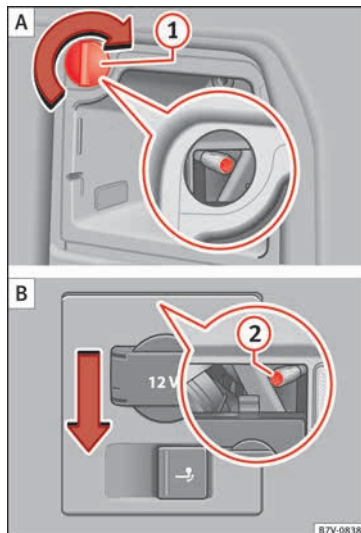

Fig. 114 On the side of the luggage compartment: removing the left and right hand side rear lights. ① remove the cap; ② attachment screw
4.	Unscrew the attachment screw » Fig. 114 ② using the screwdriver from the vehicle tool kit » page 82. The bolt is secured in its position.